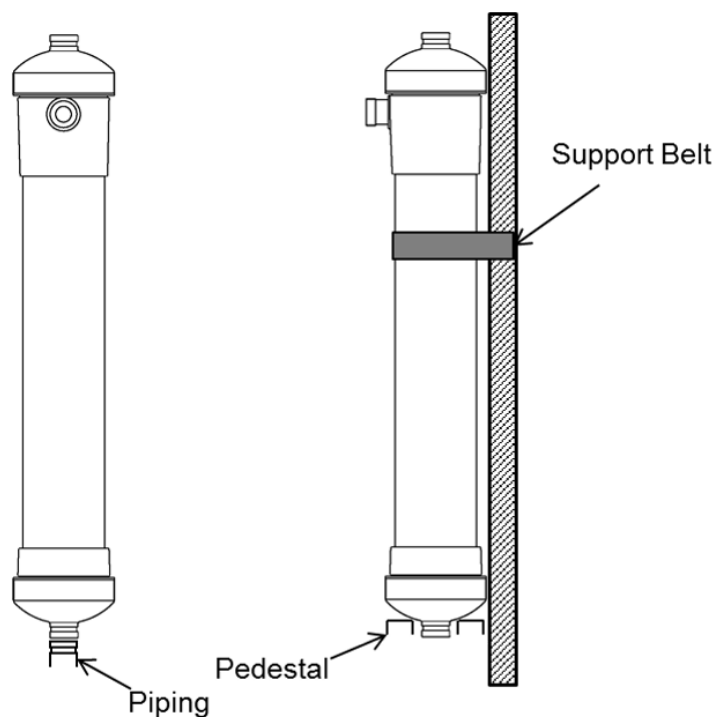

Fig. 2. Typical example of the membrane module installation
4. Put the module vertically on a piping or a pedestal in the module rack. Fix the module upright with the connections and/or a support belt (see Fig. 2). When installing a pedestal, decide its size and location considering the shapes and overall lengths of Type A, B and C.